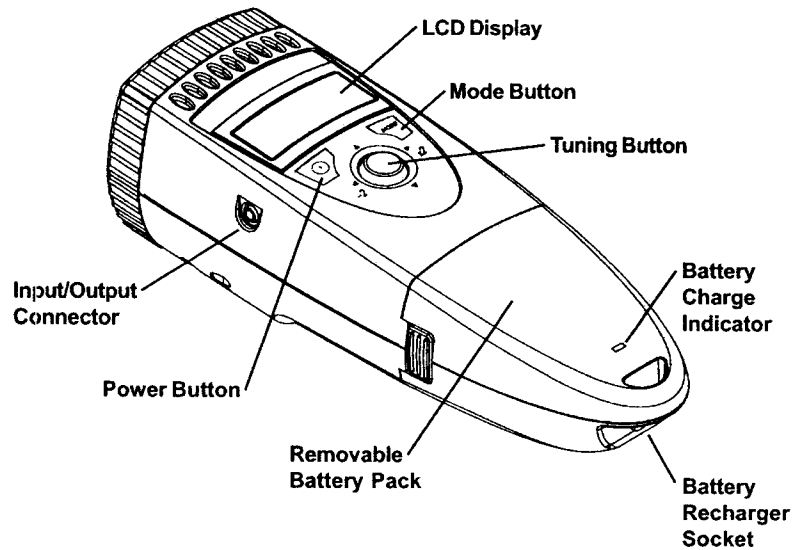

Figure 2 HHT41
2. Plug the recharger cable into the battery recharger socket on the Battery Pack (see Figure 2 for location).